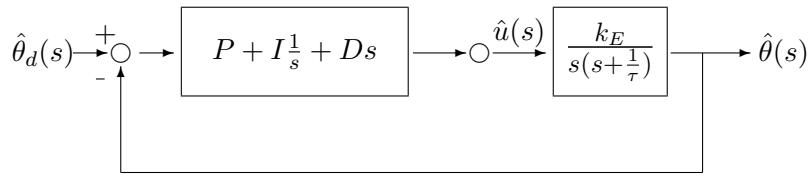
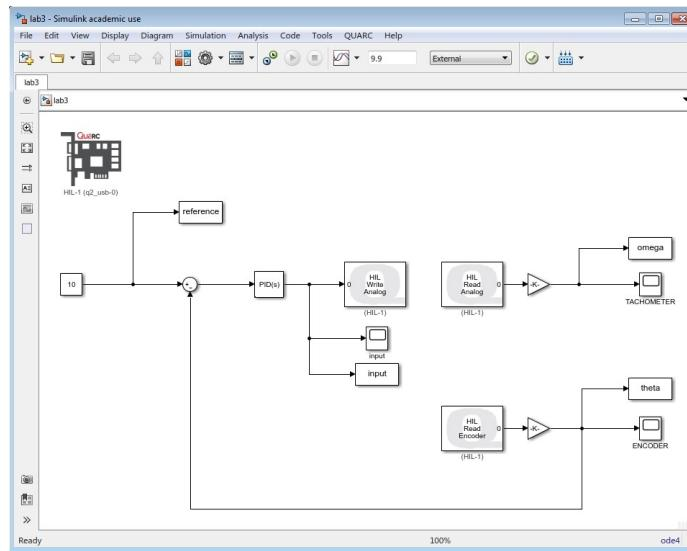

Figure 5.1: PID control system
Figure 5.3: Simulink model for the implementation of PID control
In this lab you will be examining the effects of feedback on system performance. In particular, you will design a control,  $R_C$ , for the motor using the principles of PID control as shown in Figure 5.1.
1. Using the Simulink model shown in Figure 5.3, and identify the corresponding components from Figure 5.1, i.e. what block acts as the plant, what is the reference trajectory, input, output, etc.
1. Prepare a Simulink model to implement a PID controller as shown in Figure 5.3. *Modify your model from lab 1 or 2.* The PID block can be found in the Simulink
2. Set the desired angle to 10 radians. The desired input is entered as shown in Figure 5.3 in the **Constant** block. Remember to use the appropriate gain values from Table C.1 for the encoder and tachometer to show results in radians. Do not forget to change the **solver** to **ode 4** in **Configuration Parameters** (**Ctrl+E**). Build and run the Simulink model using only the proportional term. Comment on the effects of using various values of  $P$ . In particular, comment on the overshoot, rise time, settling time, and the steady-state error for different values of  $P$ , and be sure to tabulate this data (a table in Excel is an efficient way to do this). Use at least three different values of  $P$ .